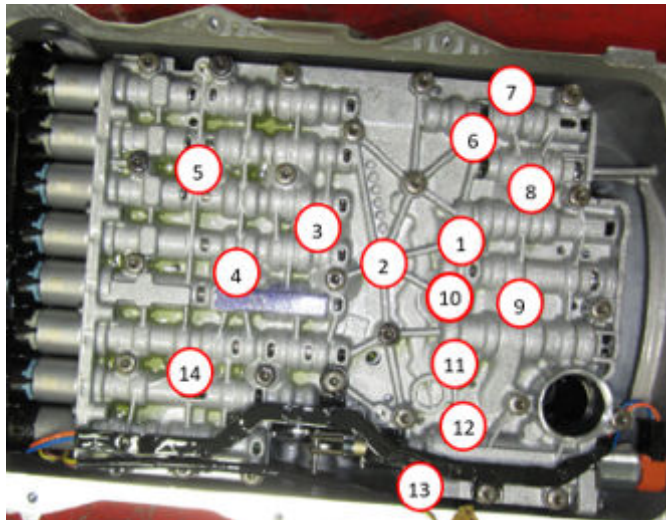

Fig. 42
63. Install the valve body assembly bolts Fig. 42.